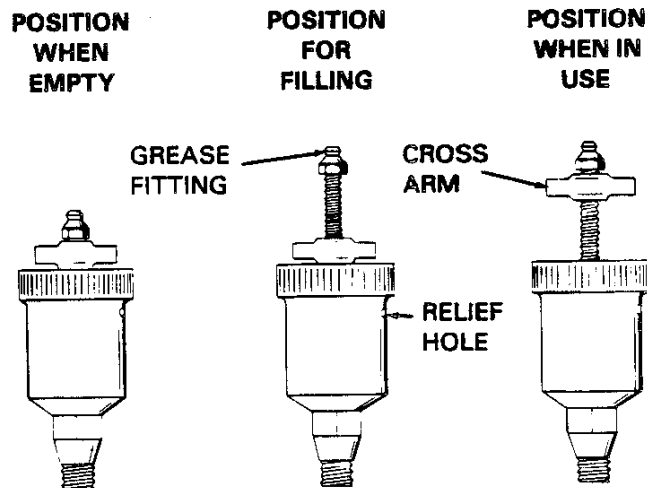

Figure 4. Automatic Lubricating Grease Cup
Before attempting to remove the impeller (2), turn the cross arm on the automatic lubricating grease cup (6) clockwise until it rests against the cover (see Figure 4). This will prevent the grease in the cup from escaping when the impeller is removed.
Fill the grease cup (6) through the grease fitting with No. 2 lithium base grease until grease escapes from the relief hole. Turn the grease cup arm counterclockwise until it is at the top of the stem; this will release the spring to apply grease to the seal (see Figure 4).